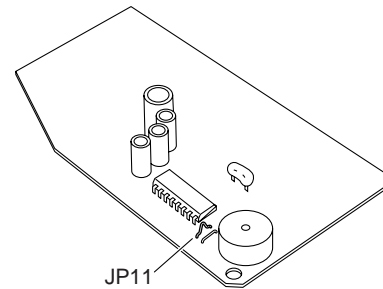

Fig. 9
- a) Unscrew the cover plate of the electrical component box. Remove the PCB. Locate and cut the jumper wire. (Figs. 9 and 10)